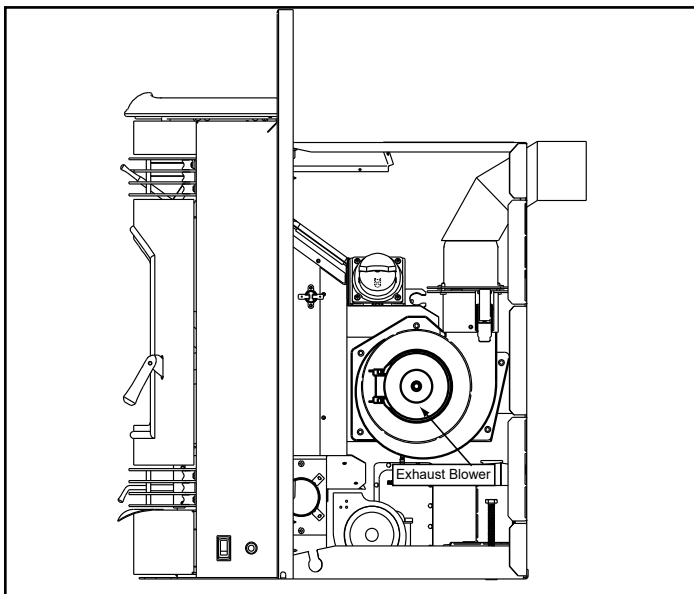

Figure 22.1
- Remove right access panel and then slide out right side panel of appliance, held in place with 2 screws, to expose the exhaust blower (**Figure 22.1**).